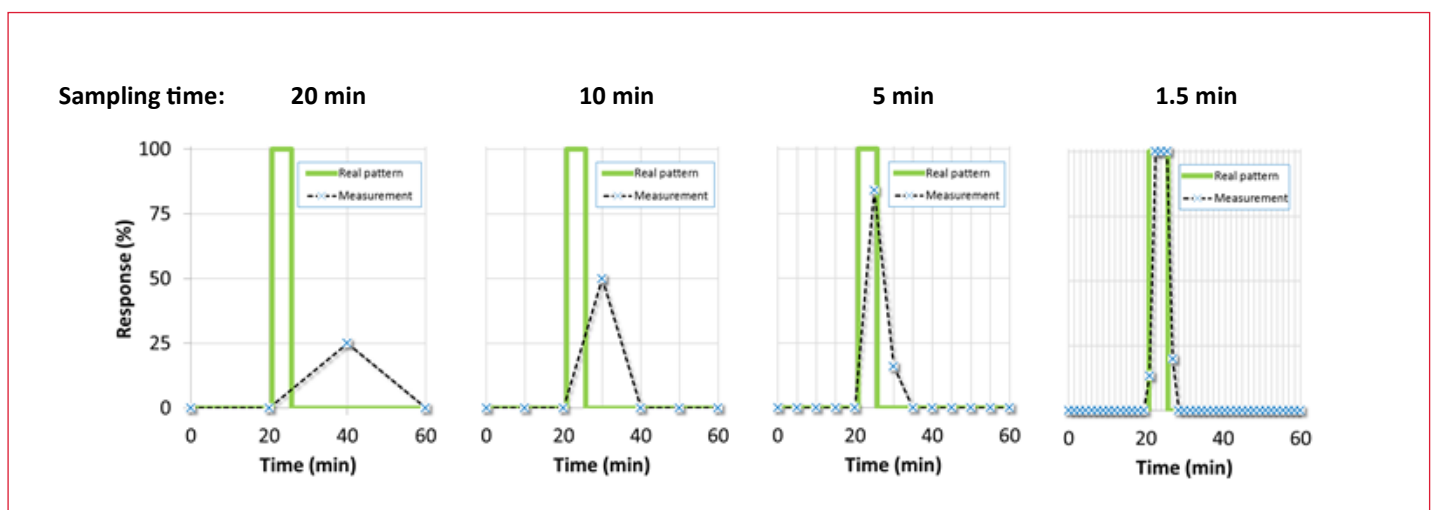

Figure 3: Increasing time resolution more accurately describes a fast in vivo response (green line).
- *Time resolution* - To monitor a relatively fast change in neurotransmitter levels, the number of data points has to be sufficient to cover the investigated pattern (Fig. 3). Instead of one injection loop, 3 injection loops are filled in series and simultaneously injected and analyzed in 3 parallel HPLC channels. This improves time resolution with a factor 3. To be able to use smaller sample fractions it is even more important to apply a technique with sufficient sensitivity.